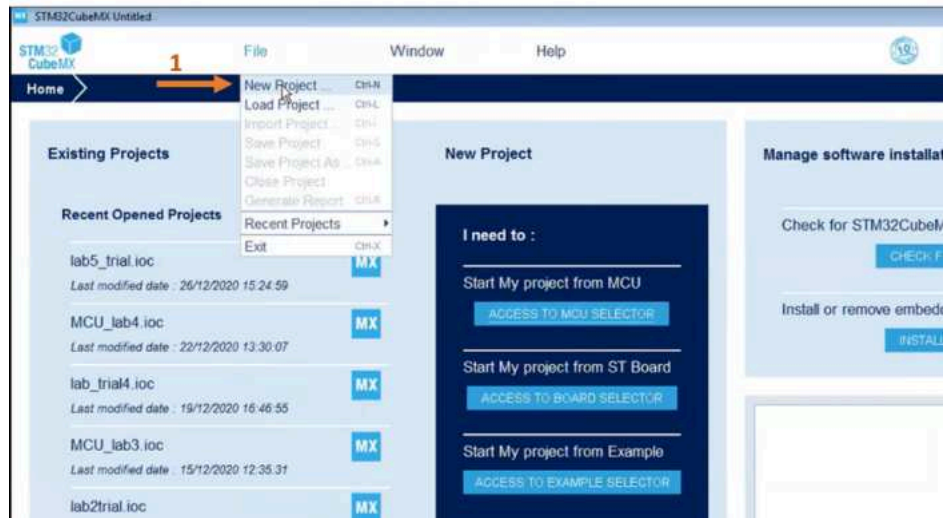
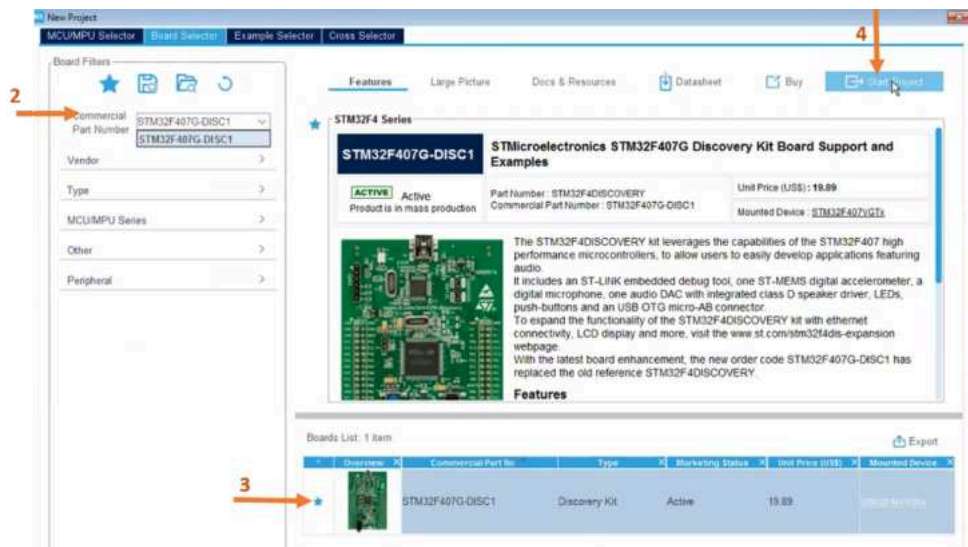

Figure 6
Figure 7
4. Now you can create a new project file to start programming. Select “New Project” from the File menu (Figure 6). The relevant microcontroller is found and selected from the Part Number as in Figure 7. After choosing our STM32F4 discovery card, choose “Start Project” from the top menu (Figure 7).